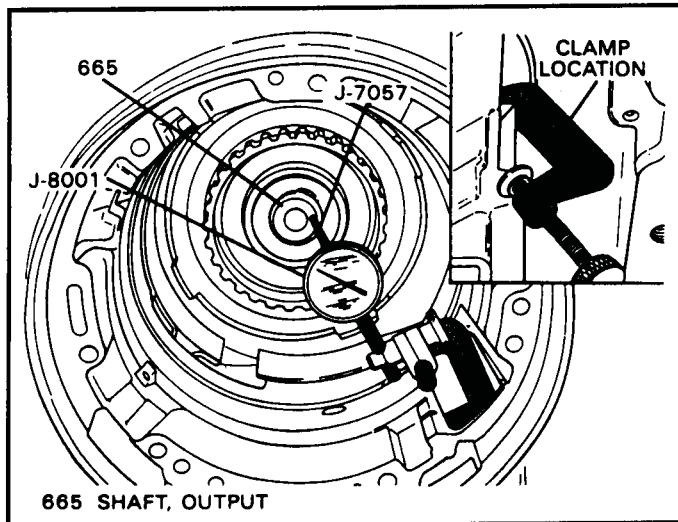

Figure 56
3. Install dial indicator, and clamp to the case as shown in Figure 56.
8. Record end play reading, and remove the dial indicator (See Figure 56).